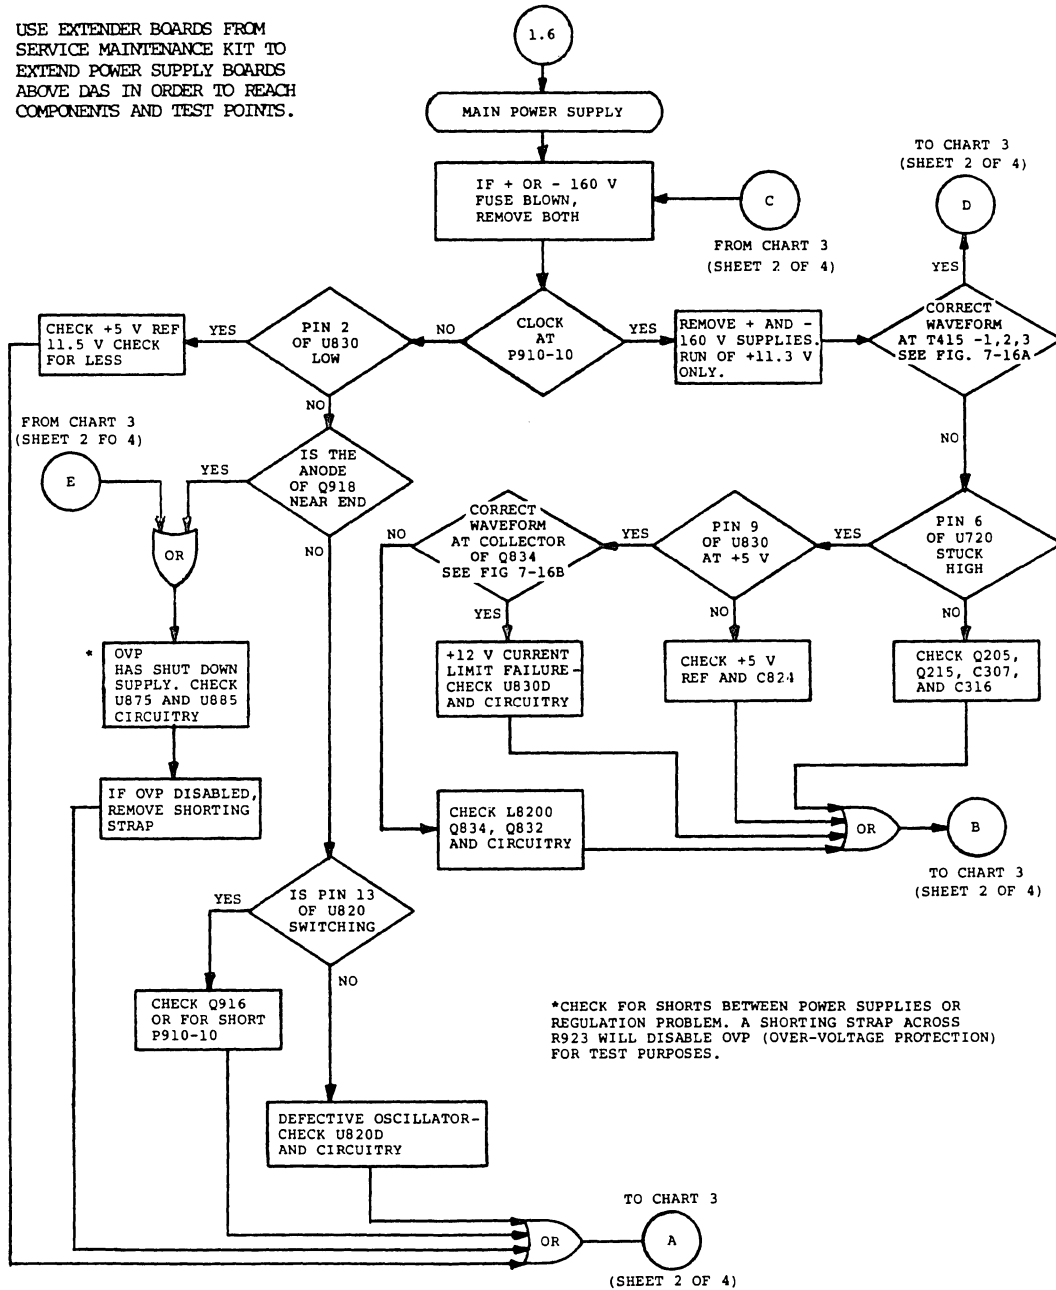

Figure 7-12. Troubleshooting Chart 3—Power supply failure—main board (sheet 1 of 4).
Use the following instructions when troubleshooting the DAS power supplies with troubleshooting chart 3 (Figures 7-12 through 7-15).
8. Follow troubleshooting tree chart 3 (Figures 7-12 through 7-15).